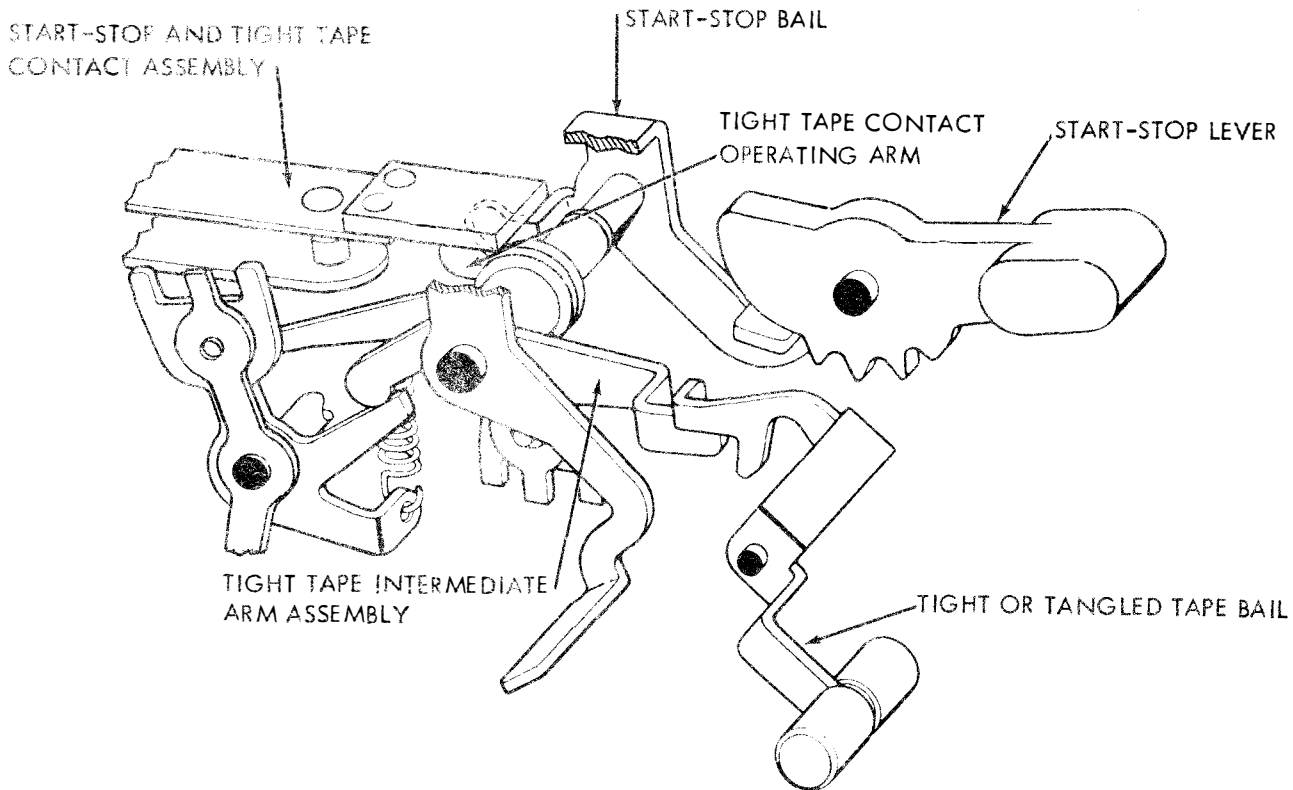

Figure 10 - Start-Stop and Tight Tape Switch Mechanisms
2.31 To stop transmission. When the control lever is pushed to its center or stop position, the cam surface of the lever cams the control lever bail causing the bail to pivot. As the bail pivots, its extension cams the swinger pad upward on the start-stop contact assembly opening the contacts. This breaks the circuit to the clutch magnet assembly causing the armature to be released to its unattracted position. Figure 10.
2.33 Tight or Tangled Tape raises the tight tape bail arm (Figure 10). The bail pivots and its extension cams the tight tape intermediate arm assembly on which is secured the tight tape arm. When the arm assembly is